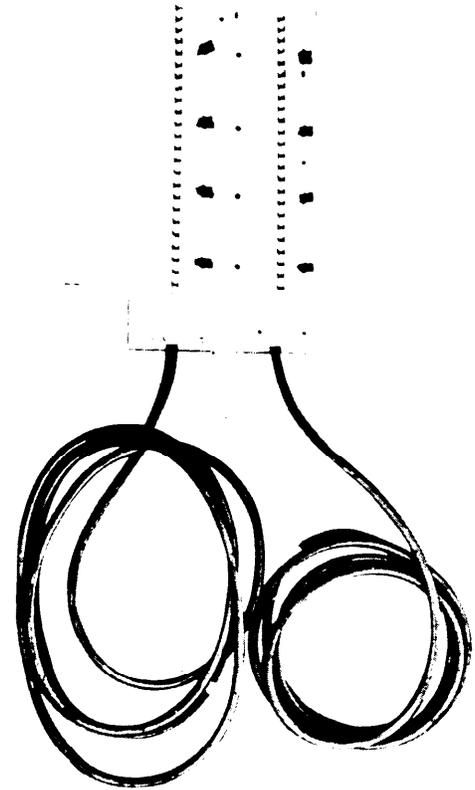

Fig. 3 - 199A1A-50-12W PROTECTOR
2.03 The MC-10/48-SW50 is illustrated in Fig. 3.